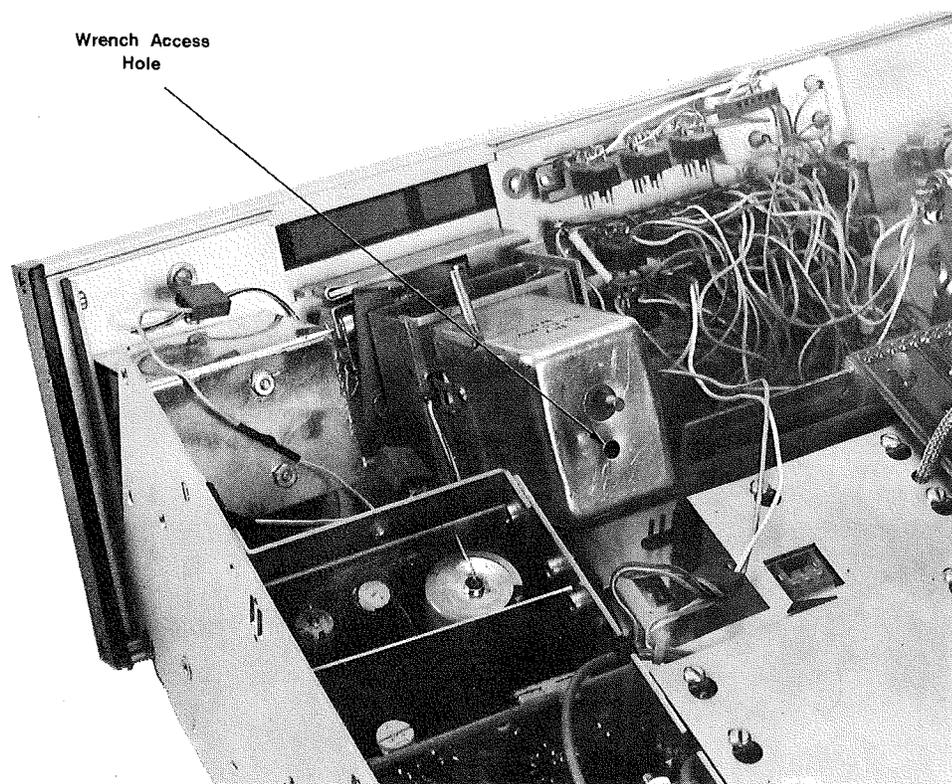

Fig. 3-44 PTO Torque Adjustment
3. Remove handles from front panel via (4) four screws.
6. Refer to figure 3-44 and identify the wrench access hole in the rear of the PTO cover. Insert a long (at least 3") 3/32" ALLEN wrench straight through this hole, seating the wrench in the ALLEN set screw which serves as the shaft bearing. The proper wrench is available from the factory. Be sure to insert the wrench straight through the access hole, to avoid damaging any components inside the PTO.